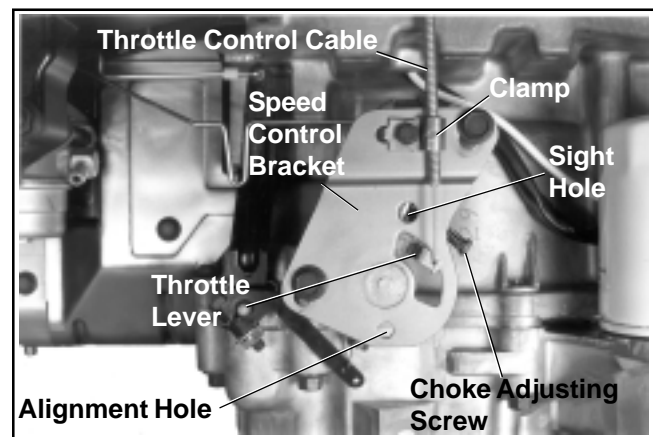

Figure 5-19. Speed Control Bracket Assembly.
1. Loosen the throttle control cable clamp. See Figure 5-19.